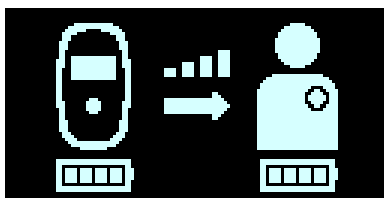

Figure 38: Charging IPG Status Screen
5. After the data download has been completed, the Charging IPG Status screen is displayed by the Guardio Charger. **See Figure 38.**
7. The Charging IPG Status screen (see **Figure 38**) will continue to be displayed as the OPTIMIZER INTEGRA CCM-D IPG is being charged.